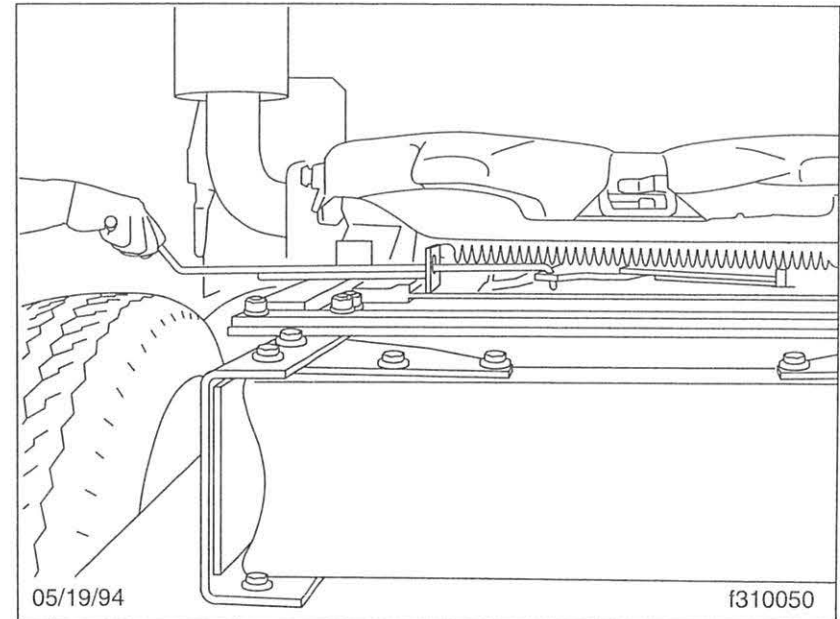

Fig. 10.19, Fontaine Sliding Fifth Wheel Manual Release
- 2.2 For manual release models, lift the slide release pull handle to disengage it from the guide plate. Then, pull out the handle (**Fig. 10.19**) until it is in the unlocked position and can be positioned against the guide plate to hold it out. The slide release pull handle will stay in the unlocked position until it is manually disengaged from the guide plate.